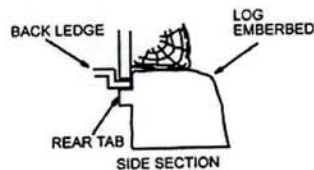

FIGURE 12
1. Lift up front edge of log until it clears the front tabs. Pull out until the rear tab clears the back ledge, then lift out. (FIGURE 12)
5. Replace the log by pushing it down and in until it rests against the mirror. (FIGURE 12)
1. Replace the glass and hold it in place at top. (FIGURE 12)